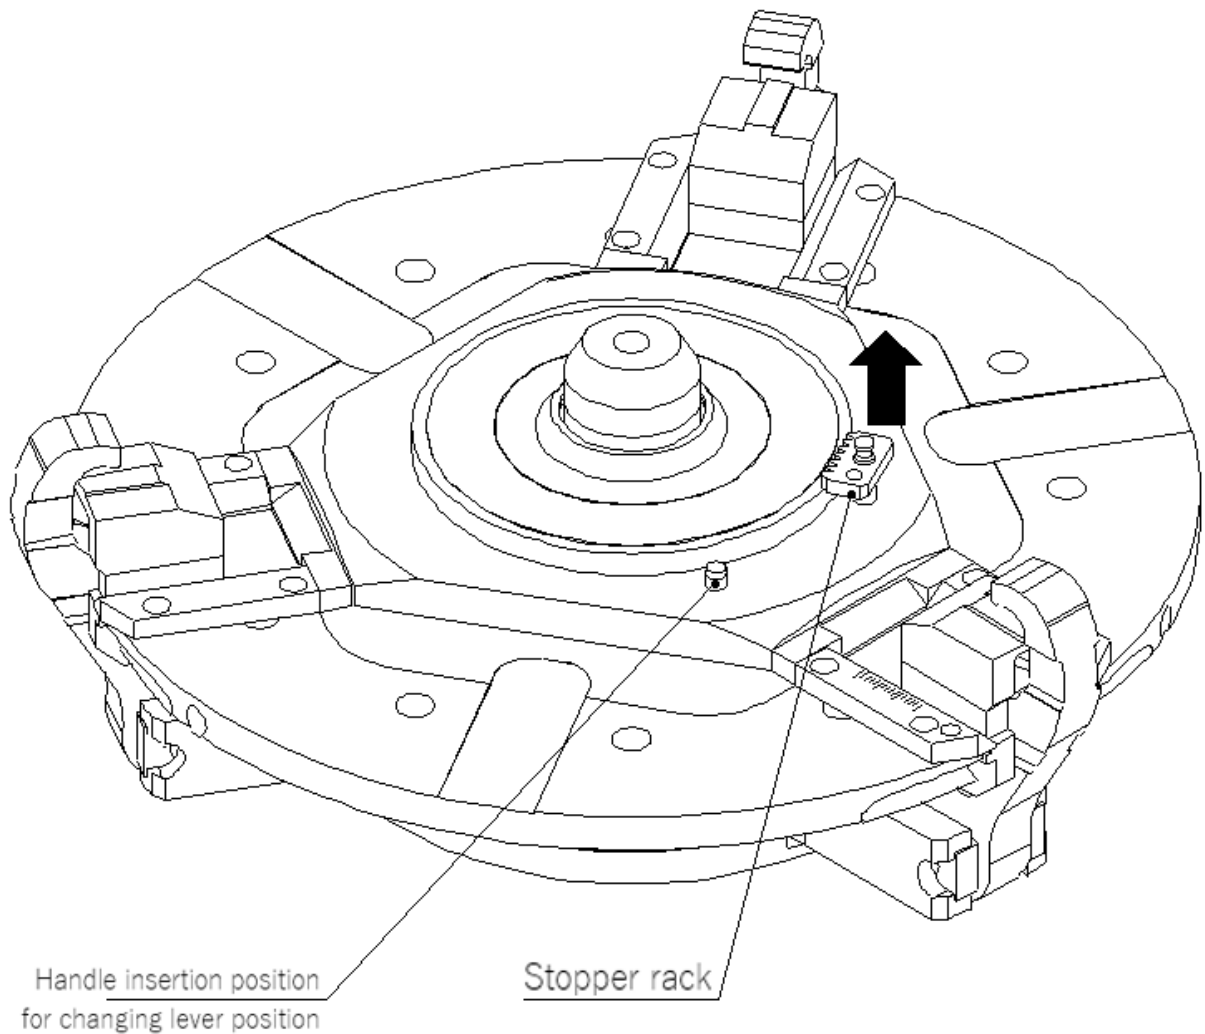

Fig.5
1. Pull the stopper rack and disengage the center gear from the rack as shown in Fig.5.